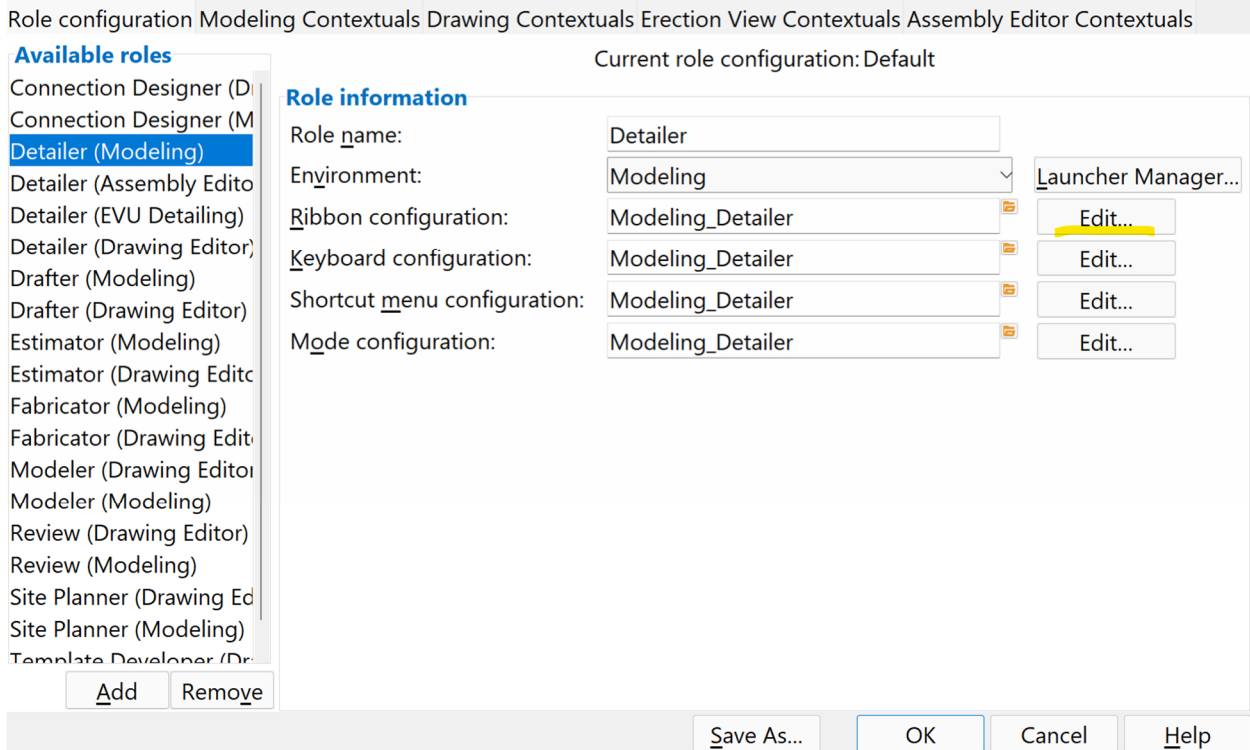

Figure 3-5. Customize Interface Window
- 7) When the *Customize Interface* window comes up, Select **Detailer (Modeling)** (Figure 3-5).